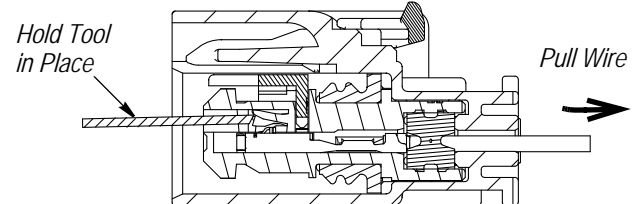

Figure 9
2. Push the wire of the contact to be removed so that the contact moves toward the mating face of the plug assembly. See Figure 9, Detail A.
3. Holding the wire in place, from the mating face of the plug assembly, insert the tip of General Motors Kent-Moore terminal release tool J-38125-215A (or equivalent, see note) into the circuit cavity release window of the contact to be removed, then gently rotate the tool toward the contact so that the circuit cavity locking latch moves away from the contact polarizing feature (this will release the contact). See Figure 9, Detail B.
4. Holding the tool in place, pull the wire, until the contact is out of the plug assembly. See Figure 9, Detail C.